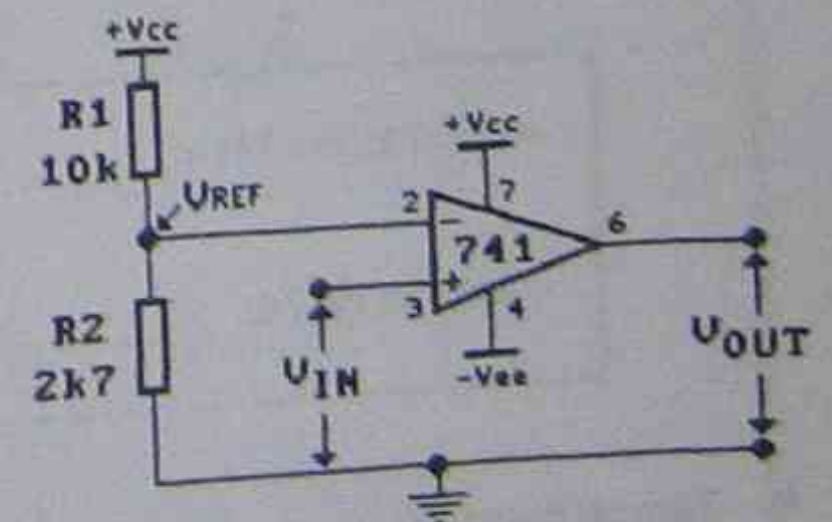

Fig. 1: The basic comparator
- Calculate the reference voltage for the comparator of Fig. 1. The value for +Vcc will depend on the available equipment and should be either ±12V or ±15V. Thus if the supply is ±12V, +Vcc = 12V.
- Construct the circuit of Fig. 1 on a prototyping board. Apply a dual polarity supply of ±12V (or ±15V) to power the circuit.